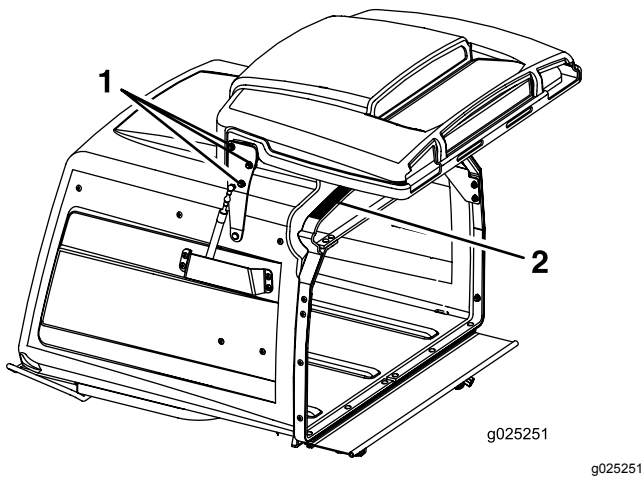

Figure 68
3. Loosen the 6 door hinge nuts (Figure 68).
4. Open the door and place a 3/8 inch (9.5 mm) rubber strip or 3/8 inch (9.5 mm) diameter hose between the hopper and the hopper door (Figure 68).